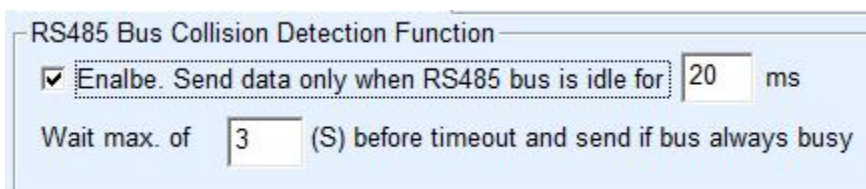

Figure 29 RS485 conflict free time
- 1) Figure 29 shows the "RS485 bus anti-collision time", which can be set as twice of the "packet interval" in the lower right corner of the parameter configuration interface, but the minimum value should not be less than 20.